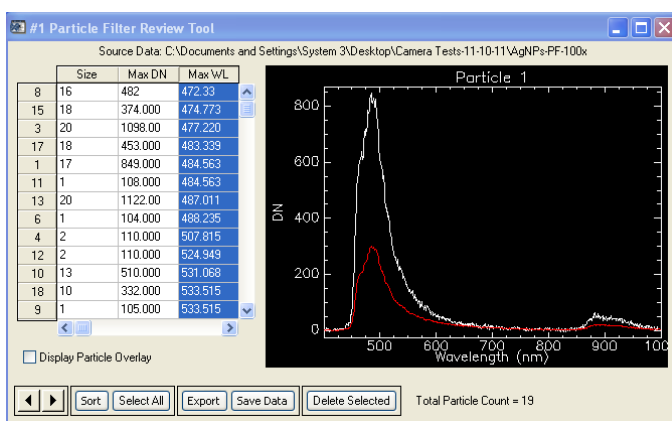

Figure 8.1c. Particle Filter Review Tool Box
- The Particle Filter Review Tool box opens (Figure 8.1c) and the detected particles are circled in the main image window (Figure 8.1d). With this example using the settings given above, the Particle Filter automatically found and circled several smaller, less bright particles.